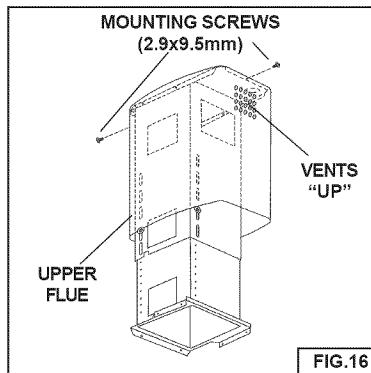

FIG.16
4. Install the upper flue with air vent "up". Secure to the support frame with (2) 2.9x9.5mm mounting screws. Fig. 16.
6. Install with air vents "up" and secure to the support frame with (2) 2.9x9.5mm mounting screws.